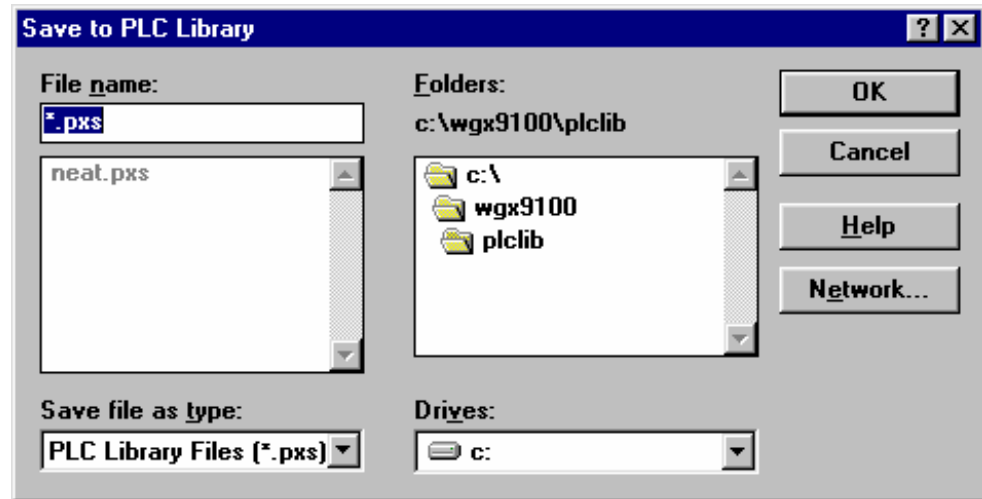

Figure 5-11: Save to PLC Library Dialog Box
1. On the File menu, click Save to Library. The Save to PLC Library dialog box appears (Figure 5-11).